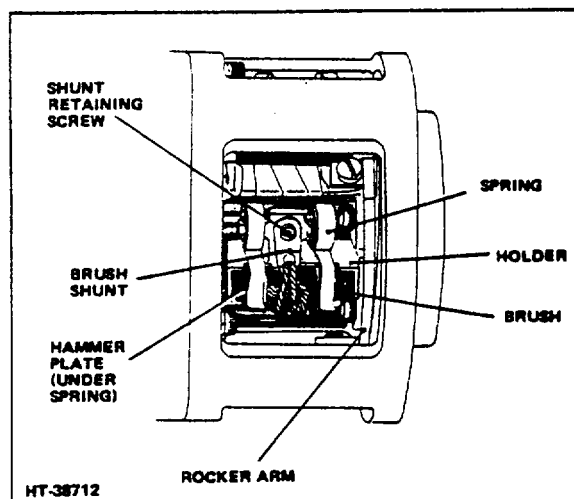

Figure 1-1. Brush Location (Typical)
3. Remove brushes. Remove brush shunt retaining screws, lift brush retaining springs and withdraw brushes from brush holders (Fig 1-1).
6. Check brush shunt (Fig 1-1) for good contact. Make certain shunt is not damaged or burned. This may cause pressure spring to carry current and lose tension; good spring pressure is vital to motor operation. (Refer to following SPECIFICATION CHART for proper brush spring pressure.)